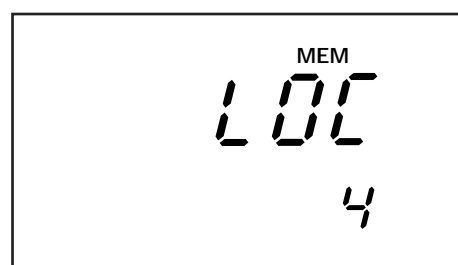

Figure 44
3. Press the **ENTER** key again to return to the memory location screen. The display automatically moves to the next memory location screen. —See Figure 44.